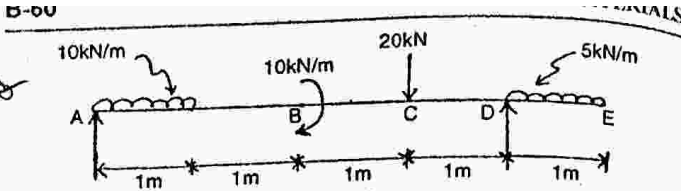

Fig. 3
3. Draw shear force and bending moment diagram for the beam shown in Fig. 3 and locate the point of contraflexure if any. (14)